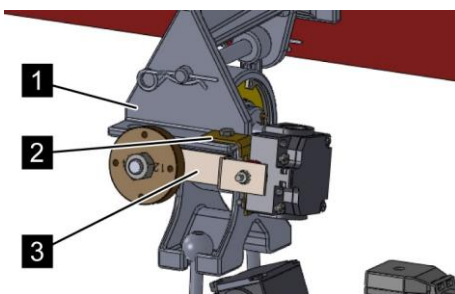

Fig. 79: Mounting the leakage monitor
26. ➤ Fasten the limit switch of the leakage monitor with the provided cylinder screws, washers and nuts on the holder of the leakage monitor (Fig. 79/2).
27. ➤ Mount the holder (Fig. 79/2) with mounted limit switch with screw, washer and nut on the holder of the weighing device (Fig. 79/1).
28. ➤ Fasten the magnets with the countersunk head screw, washer, and hex nut on the second holder (Fig. 79/3).
29. ➤ Guide the second holder (Fig. 79/3) to the threaded rod and fasten it with hex nut in the horizontal position to the weighing device.